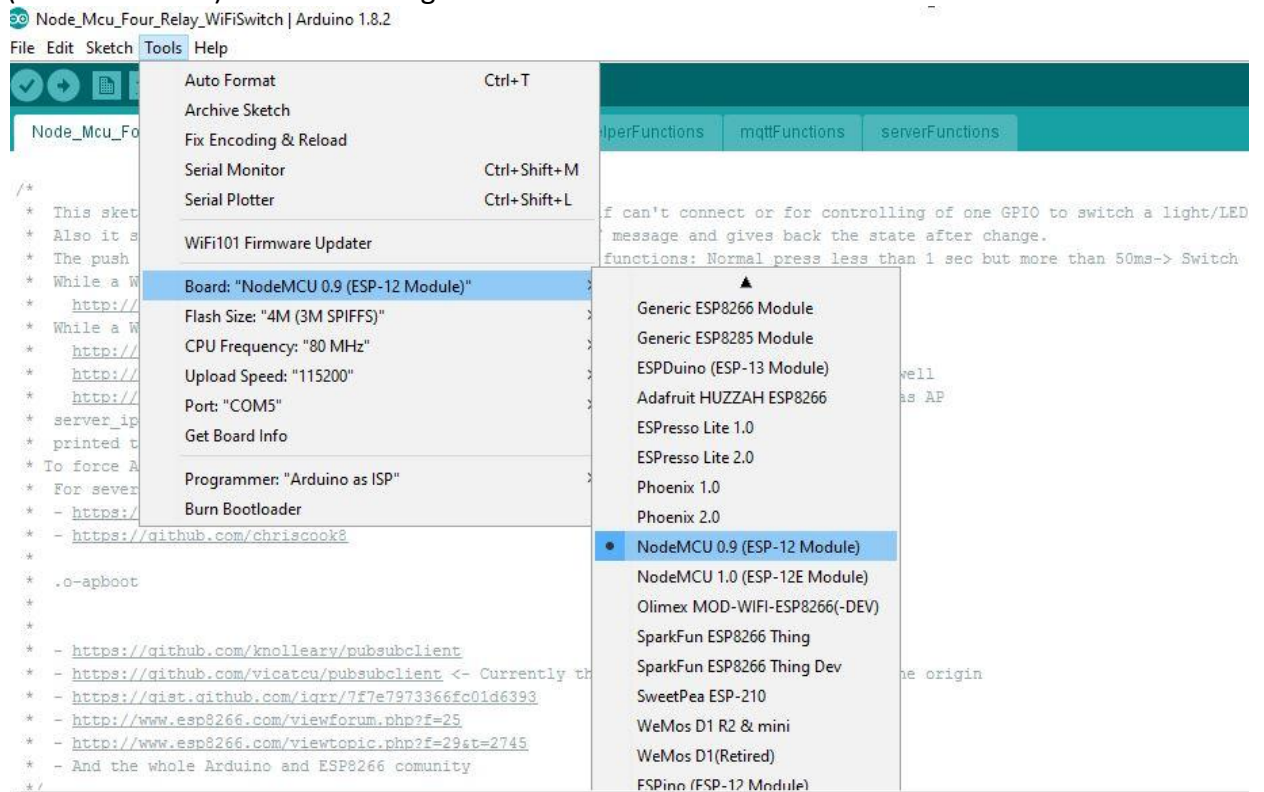

Figure 10: Board Selection
4. Click on Tools Tab, move mouse pointer on "Board: xxxxxxxxxx" and click on "NodeMCU0.9 (ESP-12 Module)" as shown in figure 10.